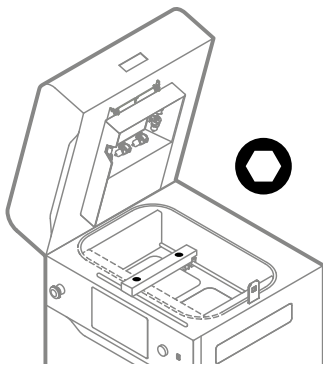

Fig. 12.11 Set the Recoater and remove the screws from the Recoater cover.
8. Using a 2 mm allen key, unscrew both screws on the Recoater cover and take off it (fig. 12.11).